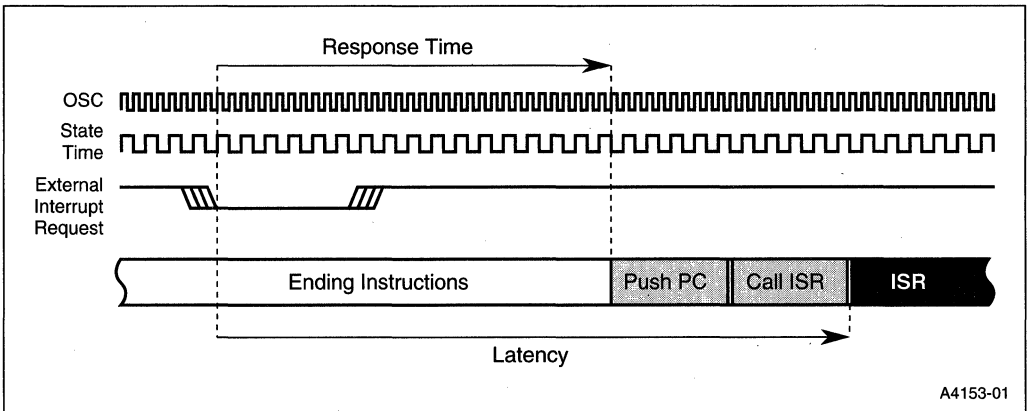

Figure 6-18. The Interrupt Process
Interrupt processing is a dynamic operation that begins when a source requests an interrupt and lasts until the execution of the first instruction in the interrupt service routine (see Figure 6-18). *Response time* is the amount of time between the interrupt request and the resulting break in the current instruction stream. *Latency* is the amount of time between the interrupt request and the execution of the first instruction in the interrupt service routine. These periods are dynamic due to the presence of both fixed-time sequences and several variable conditions. These conditions contribute to total elapsed time.
All interrupts are sampled or polled every four state-times (see Figure 6-18). Two of eight interrupts are latched and polled per state time within any given window of four state-times. One additional state time is required for a context switch request. For code branches to jump locations in the current 64-Kbyte memory region (compatible with MCS 51 microcontrollers), the context switch time is 11 states. Therefore, the minimum fixed poll and request time is 16 states (4 poll states + 1 request state + 11 states for the context switch = 16 state times).
Response time is defined as the start of a dynamic time period when a source requests an interrupt and lasts until a break in the current instruction execution stream occurs (see Figure 6-18). Response time (and therefore latency) is affected by two primary factors: the incidence of the request relative to the four-state-time sample window and the completion time of instructions in the response period (i.e., shorter instructions complete earlier than longer instructions).
When an interrupt vector cycle is initiated, the CPU breaks the instruction stream sequence, resolves all instruction pipeline decisions, and pushes multiple program counter (PC) bytes onto the stack. The CPU then reloads the PC with a start address for the appropriate ISR. The number of bytes pushed to the stack depends upon the INTR bit in the UCONFIG1 (Figure 4-4 on page 4-6) configuration byte. The complete sample, poll, request and context switch vector sequence is illustrated in the interrupt latency timing diagram (Figure 6-18).